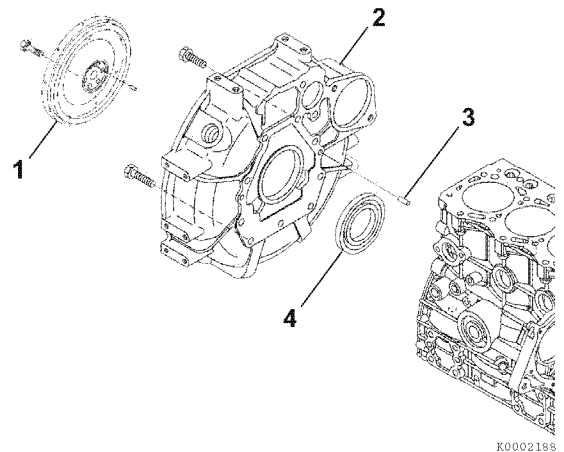

Figure 6-56
1. Remove the flywheel (Figure 6-56, (1)) from the crankshaft.
2. Remove the bolts (Figure 6-56, (2)) from the flywheel housing assembly. Remove the flywheel housing from the engine.